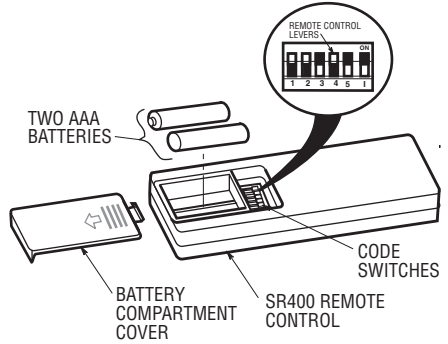

Figure 18
1. Remove the battery cover by pressing firmly below the arrow and sliding the cover off the control (Figure 18).